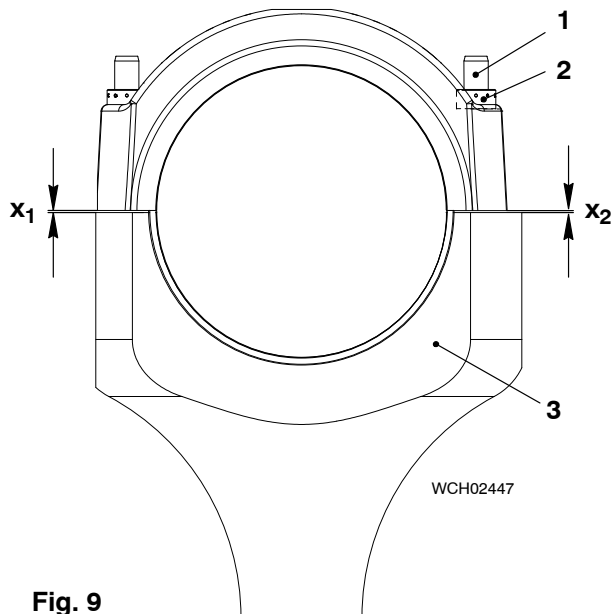

Fig. 9
- 19) Put the round nuts (2, Fig. 9) on the elastic studs (1).
- 20) Use a round bar to tighten equally the round nuts (2).
- 21) Measure the distance (X1, X2) between the edges of the bearing shells and the connecting rod (3).
- 23) Apply tension to the elastic studs (2), refer to 9403 4, paragraph 3.